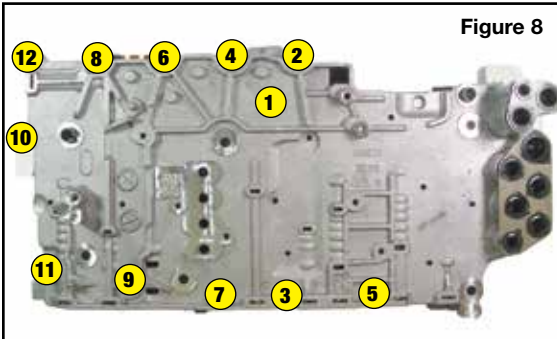

Figure 8
- Remove the 12, 7mm head bolts (Figure 8).
- Install the 12, 7mm head bolts and torque to 71 in-lbs. in sequence shown (Fig. 8).